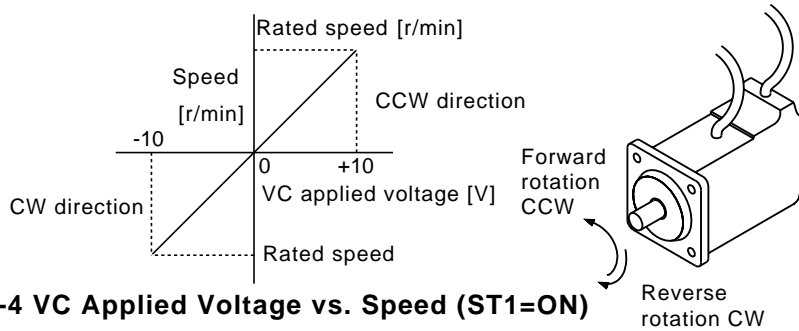

Fig. 3-4 VC Applied Voltage vs. Speed (ST1=ON)
The servo motor is run at the speeds set in parameters No. 8 to 10 (internal speed commands 1 to 3) or at the speed set in the applied voltage of the analog speed command (VC). A relationship between the analog speed command (VC) applied voltage and the servo motor speed is shown in Fig. 3-4. The rotation directions determined by the forward rotation start signal (ST1) and reverse rotation start signal (ST2) are indicated in Table 3-2.